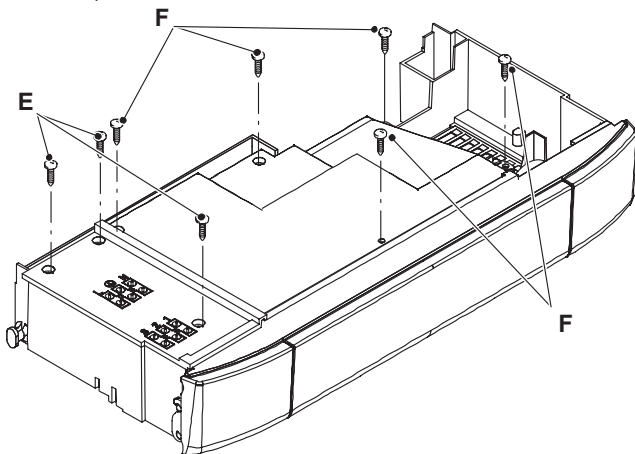

Figure 2.5
- 5 Remove the screws E and remove the service panel (Figure 2.5);
- Remove the screws F and remove the control panel lid (Figure 2.5).